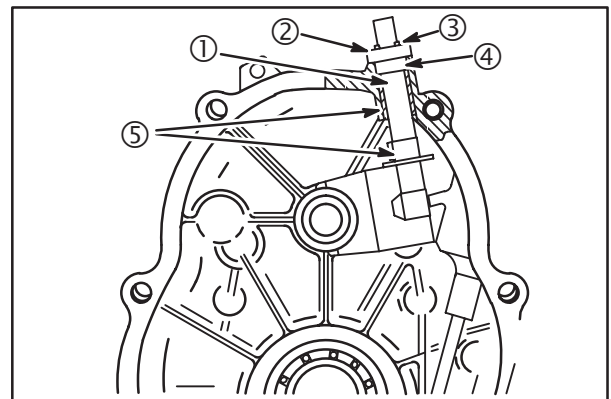

Fig. 8
- Remove cotter pin (3) and collar (2). Discard cotter pin, Fig. 8.
- Slide governor shaft (1) out of bushings (5).
- Remove and discard seal (4).